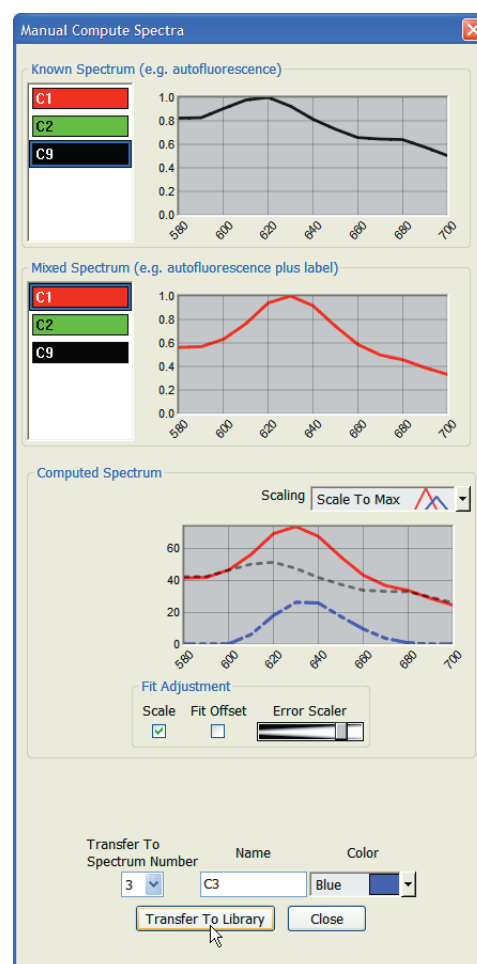

Figure 48. Manual Compute Spectra
1. In the **Computed Spectrum** group (see Figure 48), select “Scale To Max” in the **Scaling** drop down box. This provides the best visual representation of the spectra.
2. The mixed spectrum and computed spectrum are shown in their respective colors. The dotted “best fit” line is a scaled representation of the known autofluorescence signal (see Figure 48).
3. With the **Scaling** box checked, try sliding the **Error Scaler** to the right to increase the scaling (or to the left to decrease it) until the non-overlapping portions of the known and mixed spectra line up as closely as possible (as shown in Figure 48).
Occasionally, for weak signals, there may be too much baseline offset in the data. If you did not get the desired unmixing results, select the **Fit Offset** option in the **Manual Compute Spectra** dialog box (Figure 48) and see if the unmixing results improve. The computed spectra (the plot in the Spectral Graph) should have a simple gaussian curve, which is the shape of accurate quantum dot spectra.